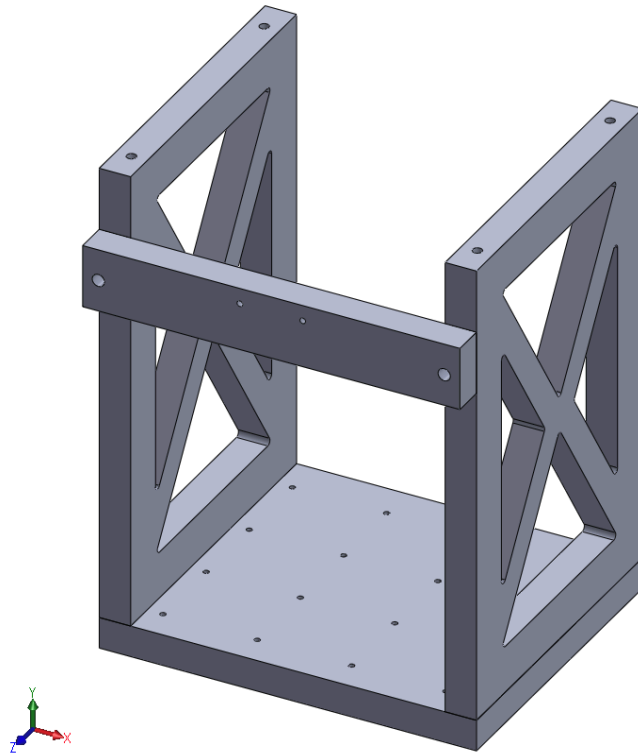

Fig.1: Shelf Configuration 1
1.03: Install PPT mount shelf Config 1 as shown in Fig. 1.	OK? _____